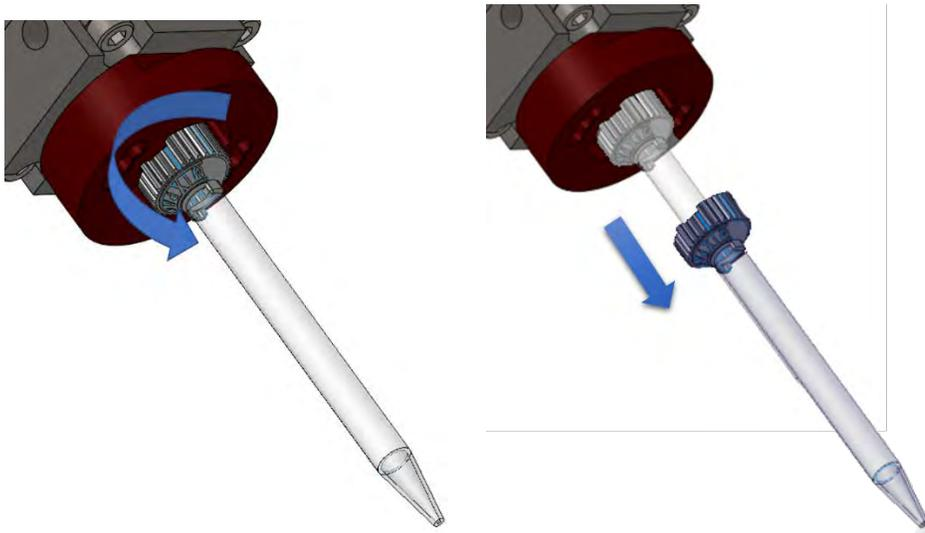

Figure 8: Remove the Static Mixer
7. Remove the static mixer (refer to Figure 8).
8. Use a 2mm hex wrench to remove the two (2) button head cap screws on the mixer retainer.